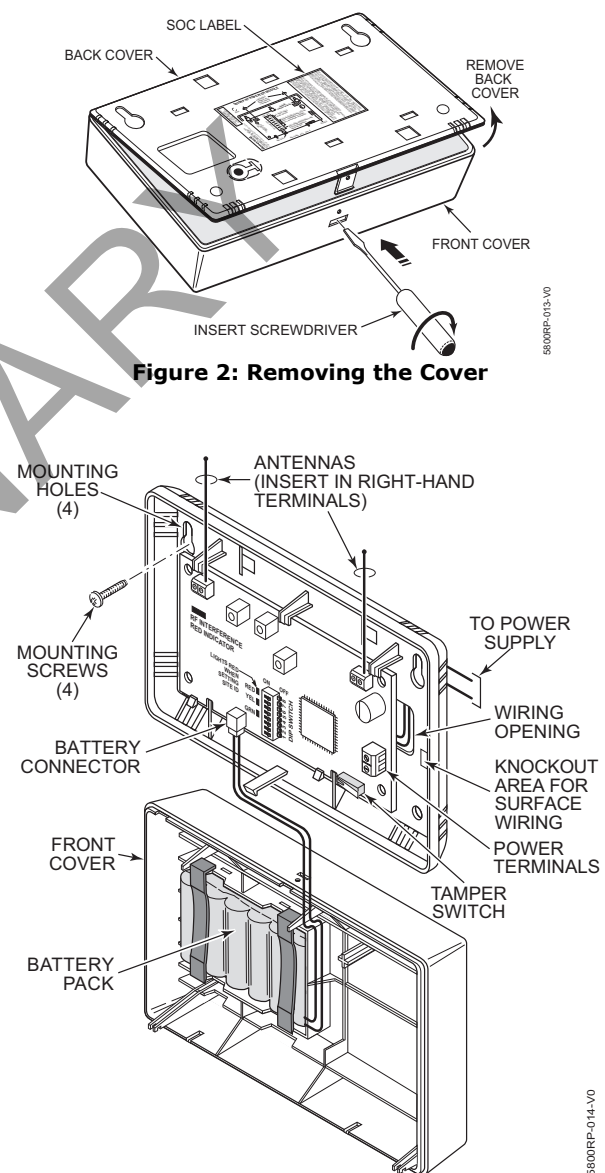

Figure 3: Mounting the Module
1. For concealed wiring, route power wires through the rectangular opening at the rear of the base before mounting. See Figure 3.
6. Connect the transformer to the 5800RP-ADT's terminals. Refer to Figure 3. These terminals are not polarized. The leads from AC transformer may be connected to either terminal. Do not connect to a receptacle controlled by a switch.
7. Plug the battery cable into the battery connector on the 5800RP-ADT PCB. See Figure 3.